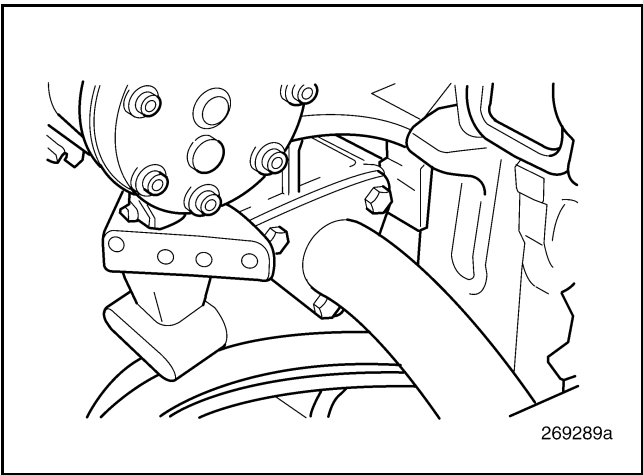

Figure 409 — Coolant Inlet Tube Mounting (Back of Front-Redesign Water Pump)
12. Install the coolant inlet tube (from the oil cooler) on the inlet port at the back of the water pump on the left side of the engine (Figure 409). Tighten the capscrews to 40 lb-ft (55 N•m).